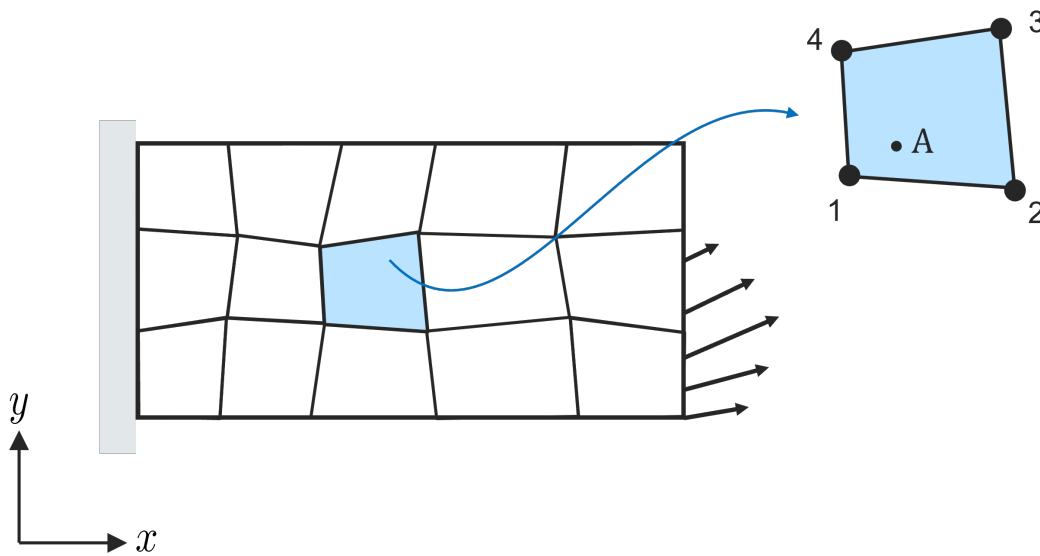

Figure 4: Illustration of component with discretization and the considered element in Problem 3.
Assume a mechanical FE simulation has been performed of a component with thickness, $t = 0.025$ m. The material is assumed linear elastic with Young's modulus, $E = 210$ GPa, and Poisson's ratio, $\nu = 0.3$. The simulation used a discretization of bilinear isoparametric quadrilateral elements as can be seen in Figure 4. In this problem, you will only consider a single element (among those used in the FE simulation). The coordinates for the four nodes (on the element level) are
a) Consider a point A within the element with local coordinates $[0.25, 0.15]^T$ in the parent domain. (The point is shown in the right part of Figure 4.) For this point, calculate the corresponding global coordinates $\mathbf{x}_A = [x_A, y_A]^T$. (1p)